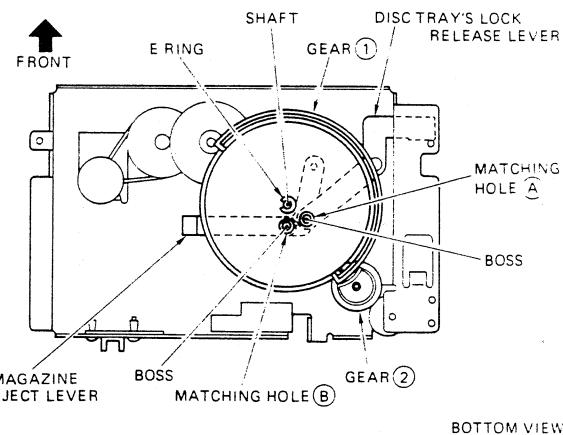

Fig. 9-1
- 1) Face the crescent-shaped recess of gear ② towards gear ①.
- 2) As shown in Fig. 9-1, insert gear ① onto the shaft so that the boss of the disc tray's lock release lever can be seen through gear ①'s matching hole (A) (gear ① held by hand at this time.)
- 3) With the boss able to be seen from the matching holes at two places, insert gear ① completely onto the shaft.
- 4) Fix gear ① using the E ring. (Fig. 9-1)